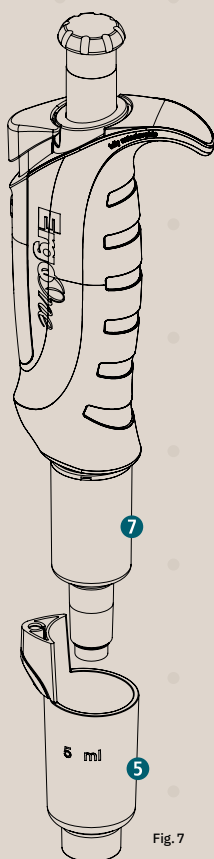

Fig. 7
- Fully depress the tip ejector button **2** and pull the tip ejector **5** down (Fig. 7).